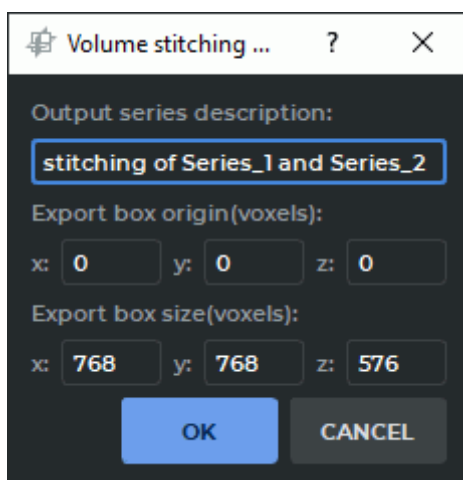

Figure 4.15: Dialog box for customizing the volume stitching parameters
3. In the **Volume stitching options** (Fig. 4.15) dialog box that pops up, add a description of the series created. By default, the description is generated automatically according to the following template: